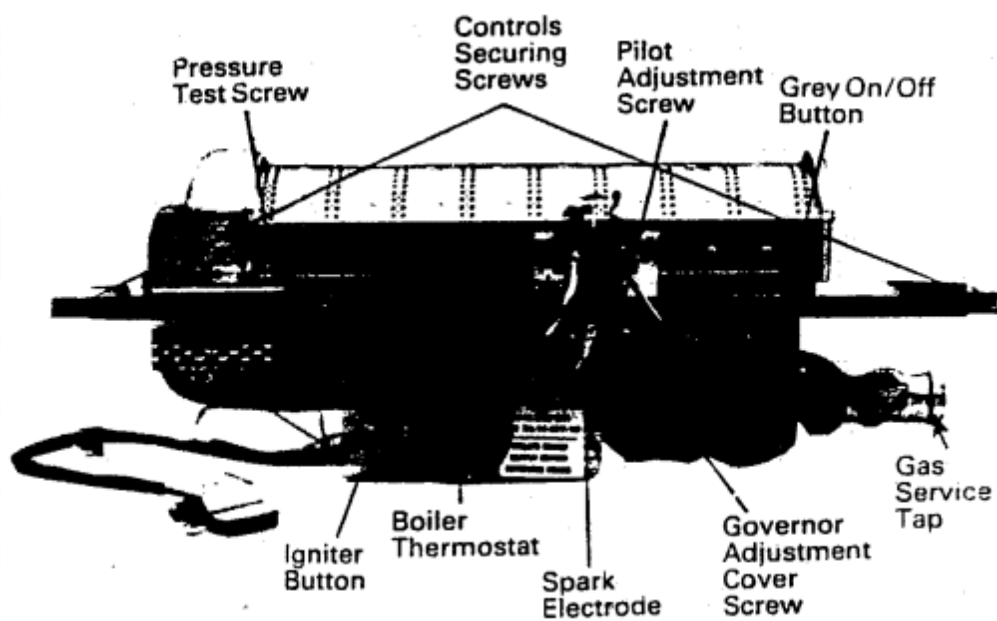

Fig. 8. Unit Controls
6. Turn the boiler thermostat to the 'OFF' position (Fig. 8).
9. Hold in the grey ON/OFF button on the gas control valve (Fig. 8).
14. Remove the cover screw and adjust the appliance governor (Fig. 8) to the setting pressure corresponding to the required input. Check the pressure after 10 minutes burning time and adjust if necessary. Adjust the input indicator arrow on the data label if necessary.